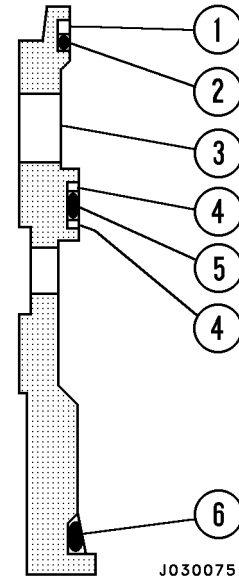

FIGURE 3-7. SLEEVE SEAL PLACEMENT
1. Install O-ring (2, Figure 3-7) onto the smallest groove (on the top) of the regulator sleeve (3). Install O-ring (5) onto the middle groove on the regulator sleeve. Install O-ring (6) onto the largest groove (on the bottom) on the regulator sleeve.
2. Install a split nylon back-up ring (4) onto each side of O-ring (5) located in the middle of the regulator sleeve.
3. Install one split nylon back-up ring behind the O-ring (2) located at the top end of the sleeve. This O-ring is the smallest of the three O-rings. Position the back-up ring so that it is next to the top of the regulator sleeve. The top of the sleeve is the end with the smallest O.D.